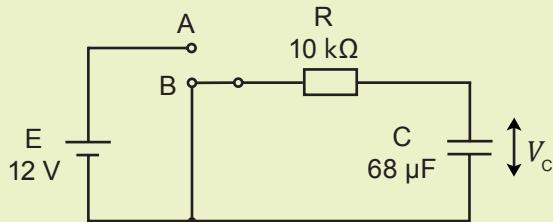

Figure 6.33
3. An RC circuit is connected as shown in Figure 6.33.